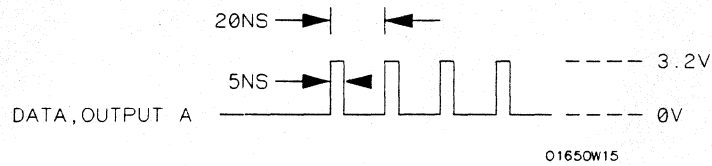

Figure 3-31. Waveform for Glitch Test
2. Adjust the pulse generator for the output in figure 3-31.